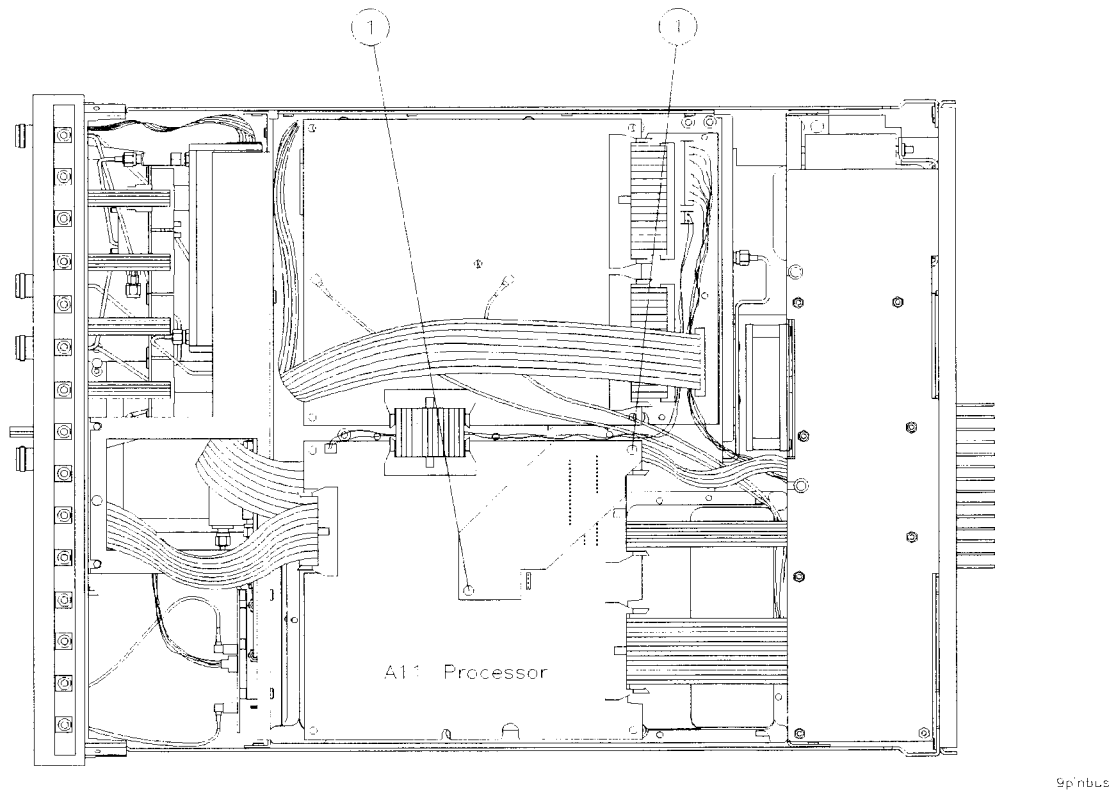

Figure 4-8 9-Pin Bus Board Replacement
Remove two screws from the A11A1 9-pin bus board (1). Refer to Figure 4-8.
2. Replace the two screws on the 9-pin bus board (1). Refer to Figure 4-8 on page 4-17.